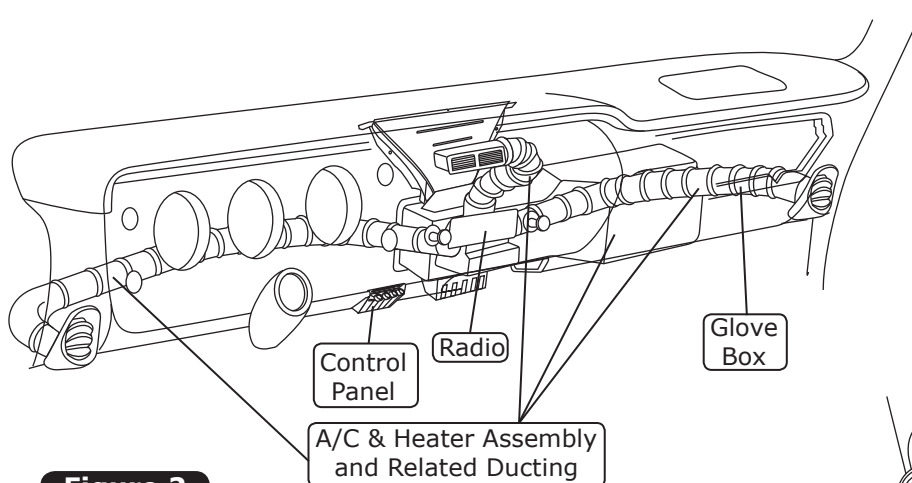

Figure 2
4. Remove all hoses and ducting from the OEM louvers (See Figure 2, below).
6. Remove the OEM A/C & heater assembly (discard) (See Figure 2, below).